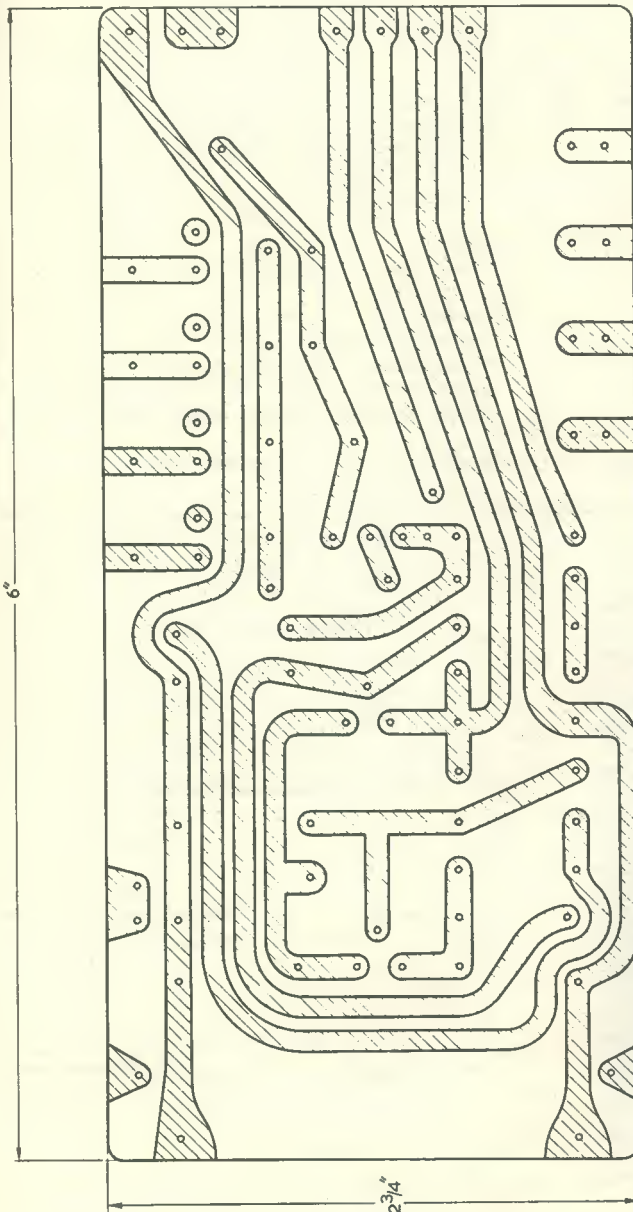
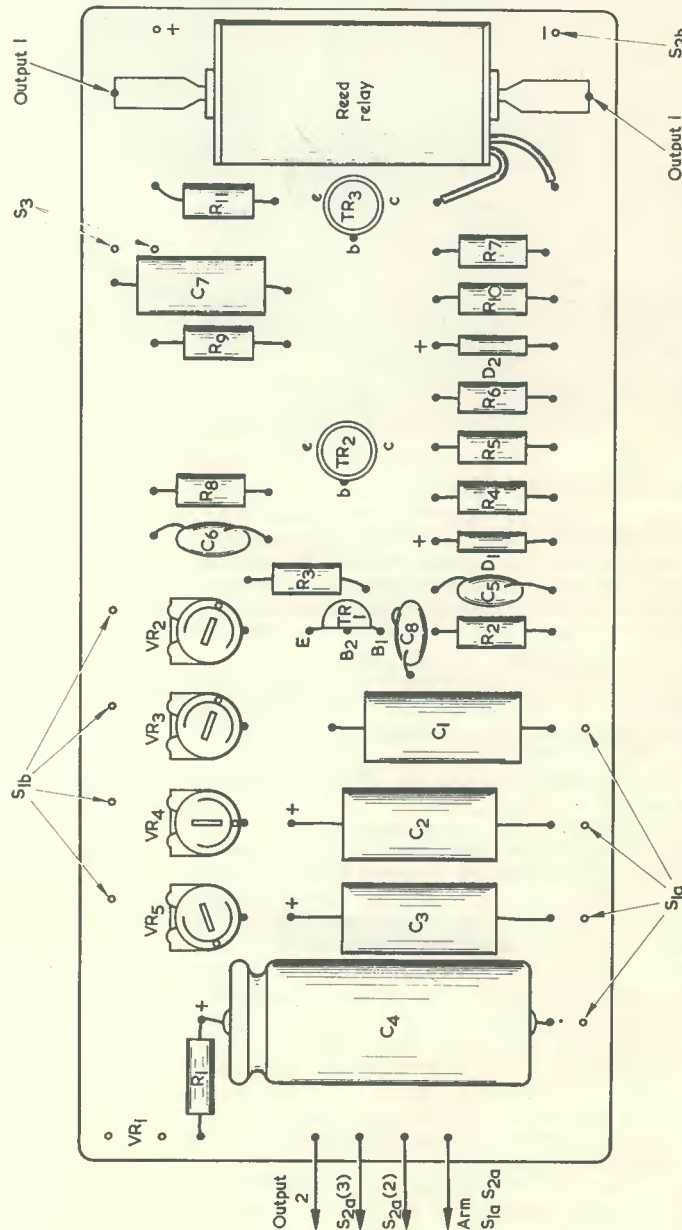

Fig. 4. The printed circuit layout employed by the writer. This is reproduced full-scale and may be traced
Fig. 5. How the components are mounted on the plain side of the panel
The layout of the etched circuit used by the writer is given in Fig. 4, with component positioning as in Fig. 5. Controls S_1 , S_2 and press-button S_3 , together with VR_1 and the output sockets, are mounted on the front panel, which can be made of Paxolin, hardboard, or aluminium. The etched circuit panel is bolted to the front panel by means of long screws with stand-off bushes.
adhesive and, when dry, bolt the Veroboard to the bracket, interposing three grommets between the bracket and the panel to act as spacer-insulators. Now bolt the resulting Veroboard and battery assembly to the main case, using the two holes provided (E), then fix the 25Ω speaker in place with the aid of Bostik. (Suitable clamps bolted as required with countersunk screws to the case could alternatively be employed for mounting the speaker, but it was found that the use of adhesive was perfectly satisfactory with the prototype.) Bolt the slide switch, S_1 , in place. Now make up the simple antenna bracket, as shown in Fig. 5, and bolt the screw-on antenna socket to it. Insert a grommet in the antenna opening in the case, screw the antenna to its socket, pass the free end of the antenna through the grommet, and bolt the antenna bracket to the side of the case. Finally, complete the circuit wiring by taking the antenna lead to the antenna bracket, the negative battery lead to the negative battery terminal, and the positive battery lead to the positive battery terminal via S_1 . Switch on to check that the unit is functioning correctly.